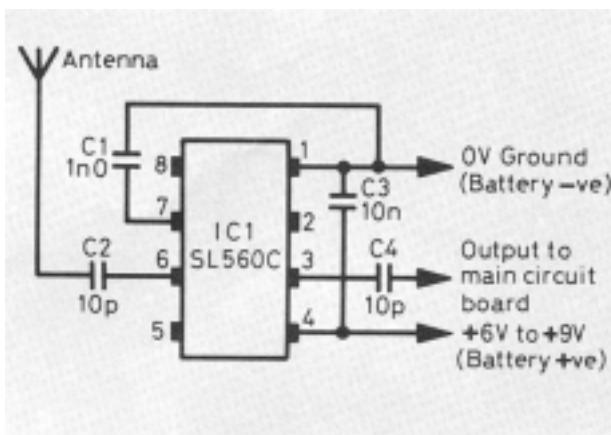

Figure 1 The integrated circuit is mounted upside down. Make sure you identify pin 1 which has a small dot next to it
This little circuit (shown in Figure 1) uses a GEC/Plessey integrated circuit type SL560C. With the addition of four capacitors, it is used between your aerial and the aerial input of the radio's PCB.
1. Use a small piece of prototype (matrix) board about 25 mm square. Use an 8-pin DIL socket for the integrated circuit (don't risk soldering the chip – it is seldom a risk worth taking). Figure 1 shows the connections to the socket, *looking from underneath*.